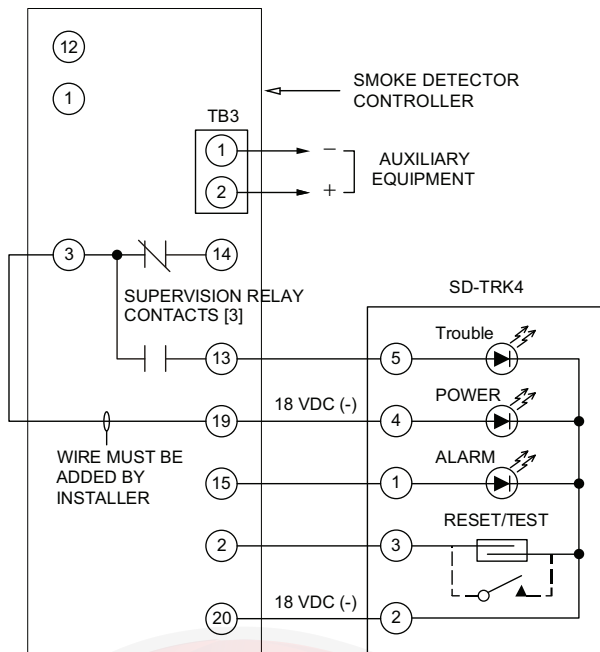

Fig. 47 — Remote Test/Reset Station Connections
The test/reset station dirty sensor test checks the test/reset station’s ability to initiate a sensor dirty test and indicate the results. It must be wired to the controller as shown in Fig. 47 and configured to operate the controller’s supervision relay. For more information, see “Changing the Dirty Sensor Test.”
1. Verify that the remote test/station is wired as shown in Fig. 47. Repair or replace loose or missing wiring.